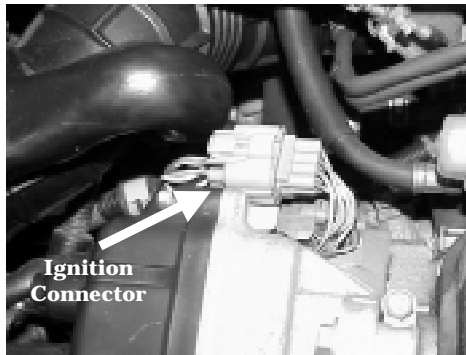
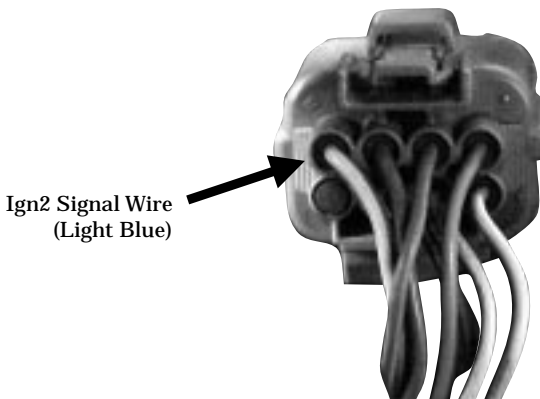

Figure 14.3. Distributor Plug Location
Figure 14.4. Ign 1 location on Distributor plug
- The signal to control Coil 1 labelled IGN1 is fed through the factory Yellow/Green igniter wire. This coil will control spark energy for cylinders 1 & 4. The wire can be located on the 8-way connector positioned on the side of the distributor. Figure 14.3 illustrates the plug location and Figure 14.4 shows the wire location inside the plug. Cut the Yellow/green wire and connect the wiring loom side to the blue wire on the Link Igniter loom. IGN 1 is now configured.